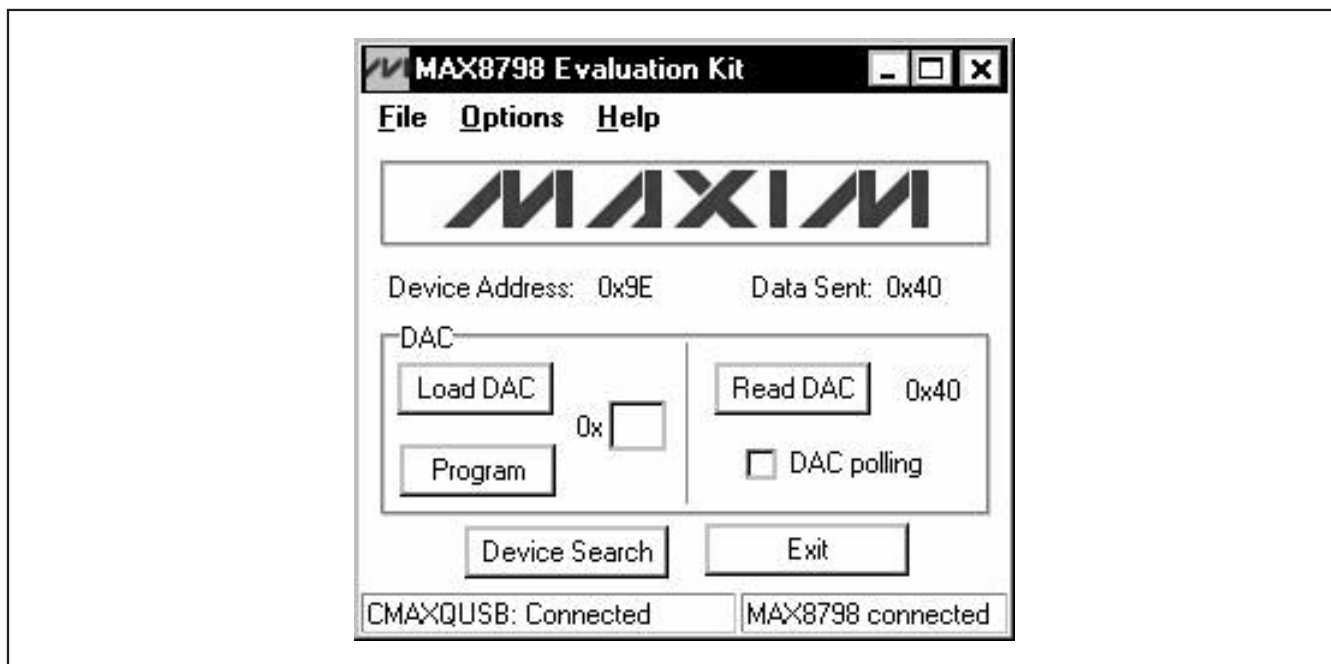
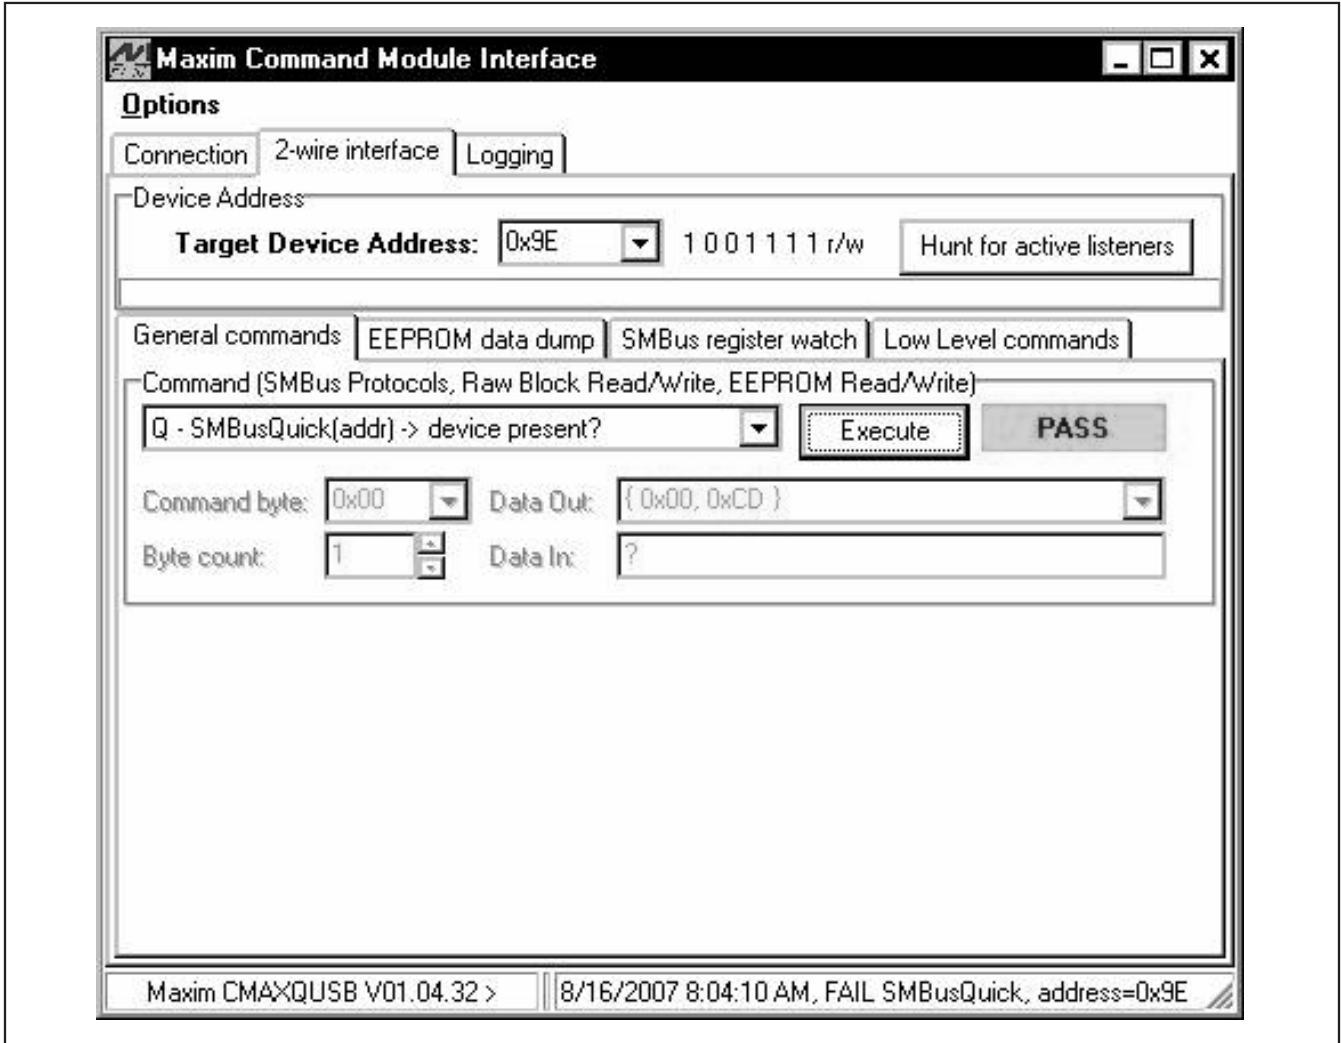

Figure 1. MAX8798 EV Kit Software Main Window
Figure 2. Command Module Interface Window
- 9) Normal device operation is verified when **MAX8798 connected** is displayed in the **status bar** on the MAX8798 EV kit main window (Figure 1).
DAC setting into the **DAC** edit box. The DAC setting can be set from 0x00 (VCOM_{MAX}) to 0x7F (VCOM_{MIN}). The DAC setting is written to the device by pressing the **Load DAC** button (Figure 1).
There are two methods for communicating with the MAX8798: through the MAX8798 EV kit software main window (Figure 1), or through the interface window available by selecting the **Options I Interface** menu item from the menu bar. The Maxim command module interface window (Figure 2) includes a **2-wire interface** tab that allows for execution of the **SMBusSendByte()**, **SMBusReceiveByte()**, and **SMBusQuick()** commands. See Table 3 for details regarding SMBus commands.
The **Command byte** combo box accepts numeric data in binary, decimal, or hexadecimal. Hexadecimal numbers should be prefixed by \$ or 0x. Binary numbers must be exactly eight digits. See Figure 2 for an illustration of this tool.